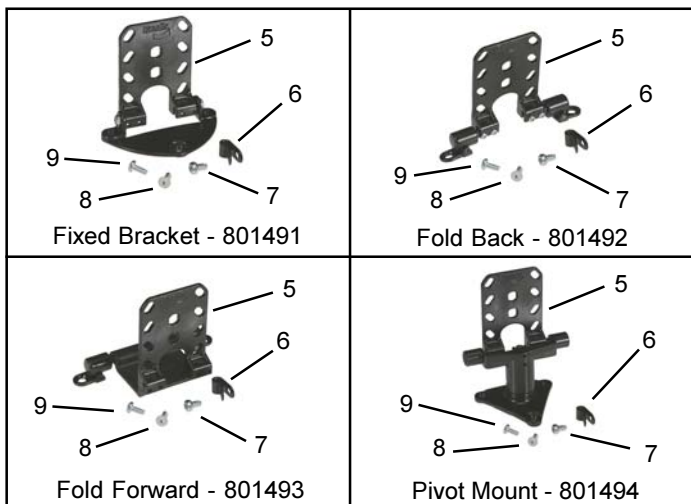

Figure 2 Flat Panel Display Mounting Kits
2. Using the four Pan Head Plastite Screws(8) secure the mounting bracket to the back of the display. The mounting bracket kits and configurations are shown in Figures 2 and 3.